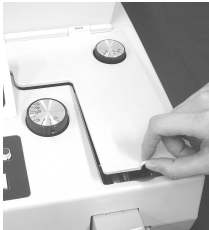

Fig 8
3. Open up the lid, push forward the connecting rod (Paint in red) and pull up the thickness control knob to remove the distorted coin or foreign material. Reassemble in reverse order after clear off. (As shown in Fig.8, 9, 10)